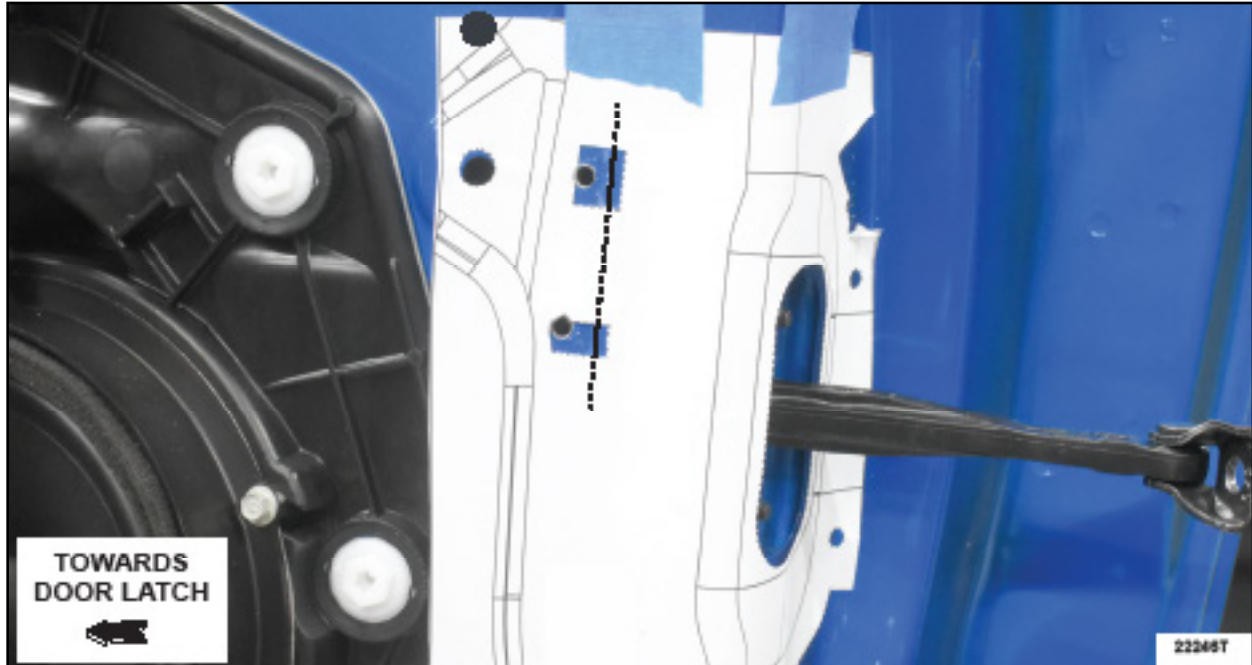

FIGURE 13
11. Find the line inside each square, from Figure 5, that was drawn on the sheet metal before removing the door panel. Make a mark on the door latch side of the line, making sure it is at least 10 mm (0.39 inch) away from a spot weld or a weld separation lines. Using a 5mm drill bit, center punch and drill out both marked locations as shown in Figure 13.